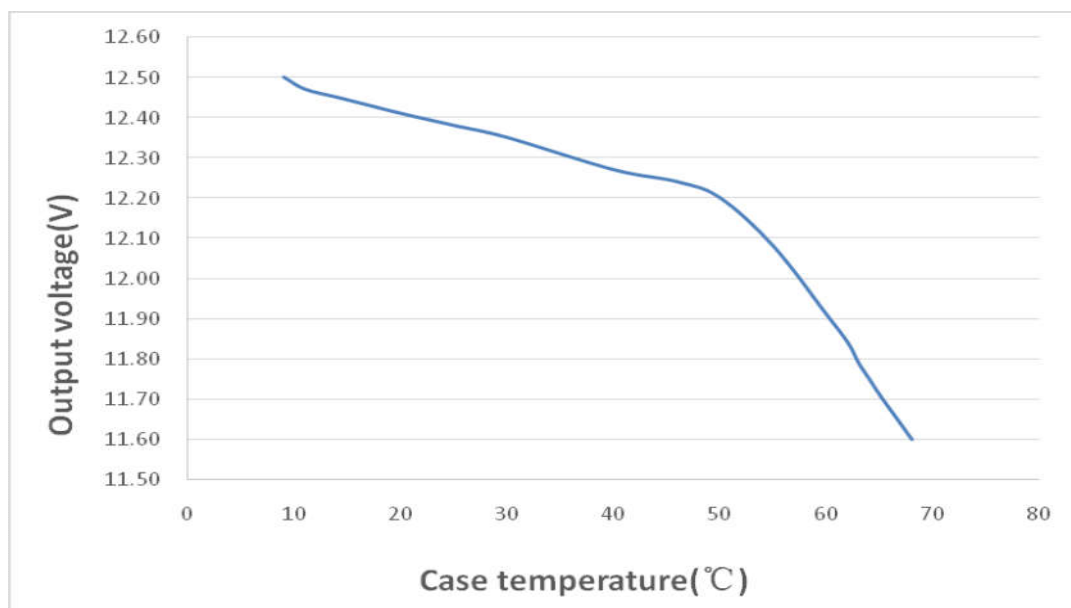

Fig.4
5.1 Test conditions: Input voltage: 48V, Load resistance: 0.4Ω. The converter is equipped with an aluminum heat sink. Output voltage, output current and efficiency are shown in figure 4, 5, and 6.